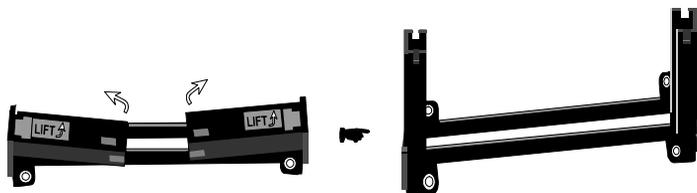

Figure 6
- 1 First, please refer to figure 6 below, and follow the direction to lift up the foldable AMD K7 Retention Mechanism. This pre-installed device is designed for you to install AMD K7 CPU more easier and to avoid any damage on the board due to overtightening the four screws.